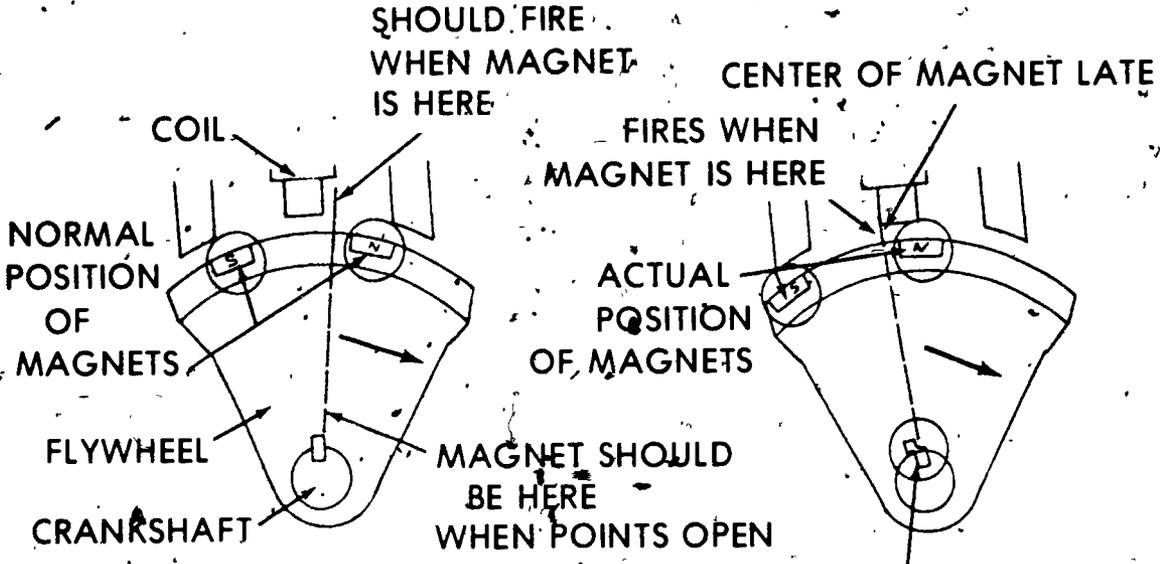

FIGURE 8
U. Replace flywheel using correct flywheel key (Figure 8)